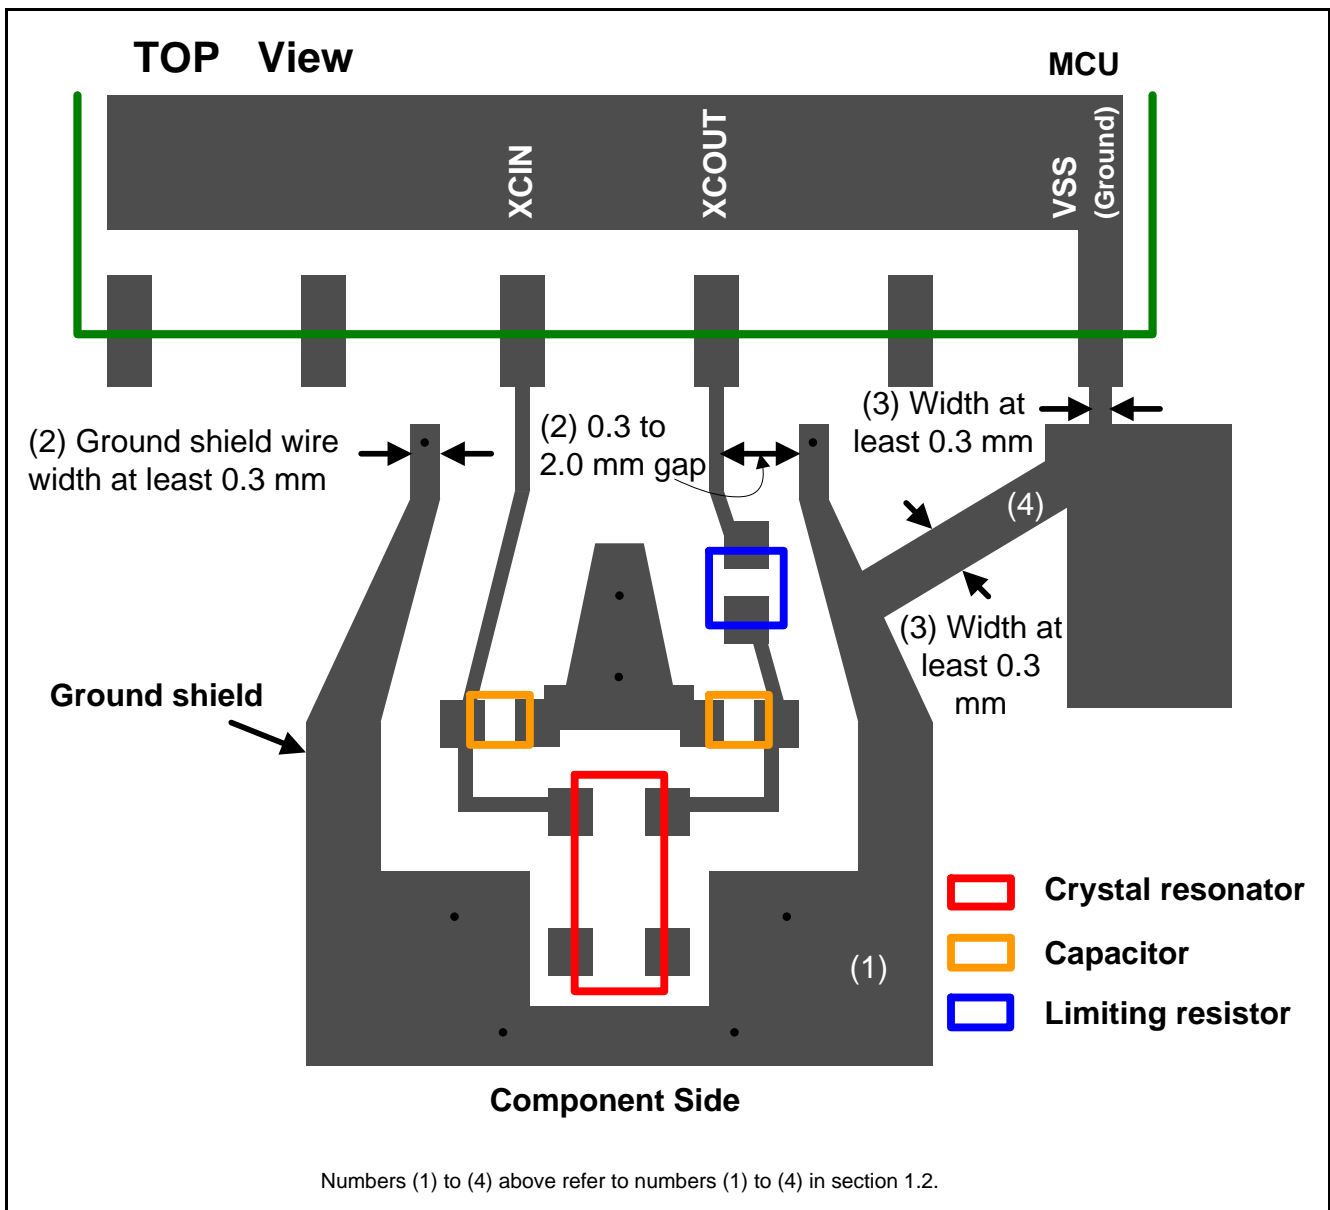

Figure 1.5 Trace Example for the Ground Shield in the 100-pin, 144-pin, and 176-pin LQFP Packages
Shield the crystal resonator with a ground trace. (1) to (4) below describe the points regarding the ground shield. Figures 1.5 to 1.7 show trace examples for each package.
- (1) Lay out the ground shield on the same layer as the crystal resonator wiring.
- (2) Make the ground shield wire width at least 0.3 mm, and leave a 0.3 to 2.0 mm gap in between wires.
- (3) Wire the ground shield as close to the VSS pin on the MCU as possible, and ensure that the wire width is at least 0.3 mm.
- (4) In the 100-pin LQFP, 144-pin LQFP, 176-pin LQFP, and 145-pin TFLGA packages, to prevent current from running to the ground shield, branch the ground shield and the ground on the board near the VSS pin on the board. The VSS pin and ground shield in the 176-pin LFBGA and 177-pin TFLGA packages are different and do not apply here.